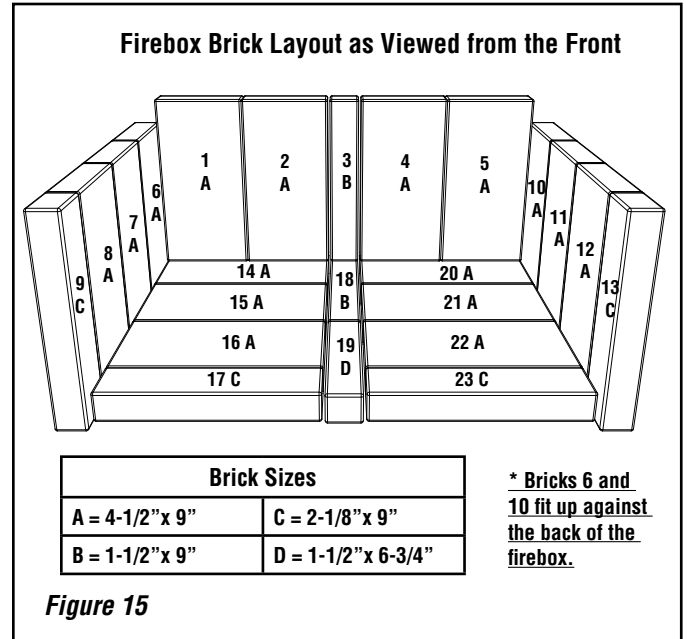

Figure 15
Measure bricks before installing, as per list of dimensions in **Figure 15**.
1. Install the brick as shown in **Figure 15**.